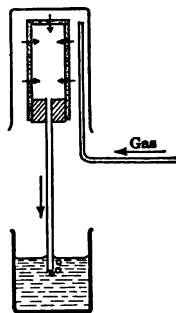

FIG. 75. — Gases
78. Diffusion through Porous Solids. In the apparatus shown in Fig. 75, an unglazed earthenware cup is closed with a rubber stopper carrying a glass tube which dips into some colored liquid. When a beaker is inverted over the cup and illuminating gas is led into the beaker, air begins to bubble out through the liquid. This experiment shows that gases